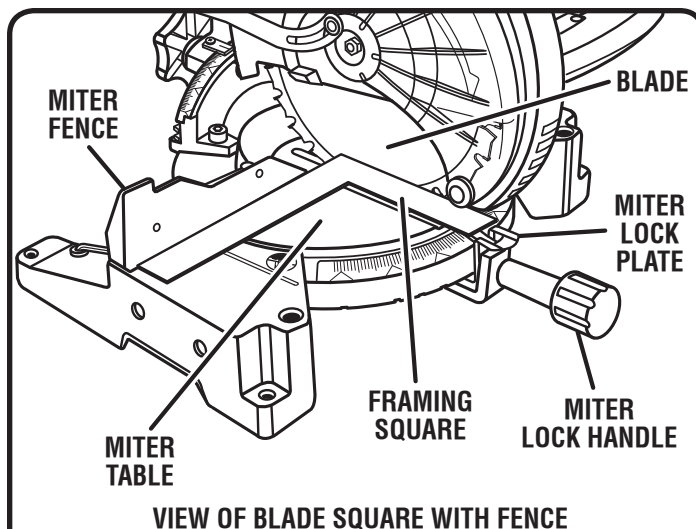

Fig. 18
- The edge of the square and the saw blade should be parallel as shown in figure 18.